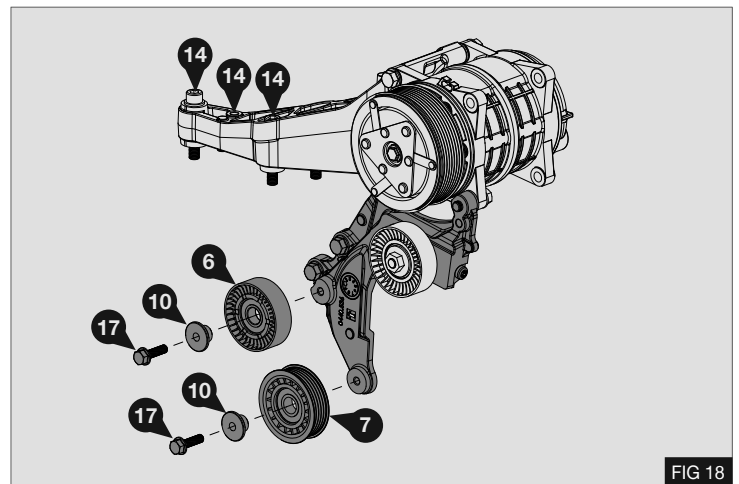

FIG 18
6. Torque bolts (14) to 58Nm / 43lb. ft. - Fig 18
7. Install idle pulleys (6) and (7) to bracket (2) using bolts (17) with spacers (10) as shown opposite. Torque bolts (17) to 29Nm / 22lb. ft. - Fig 18